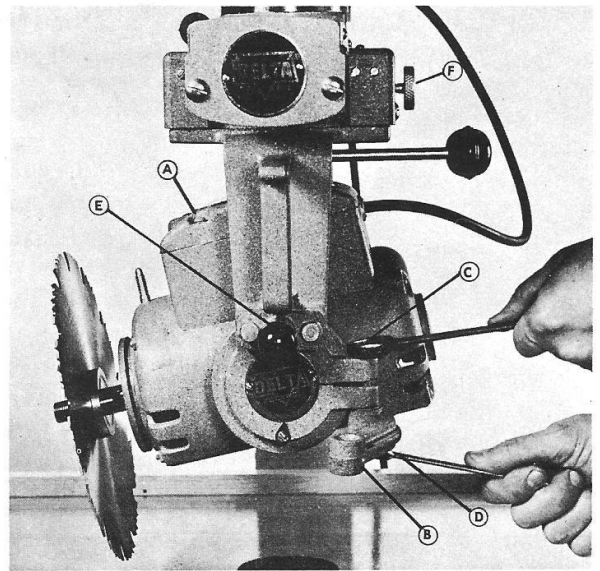

FIGURE 10
Check bevel clamp handle for firm locking position, see Fig. 10. Bevel latch (E) quickly locates motor (A) at 0, 45 and 90 degree operating positions.